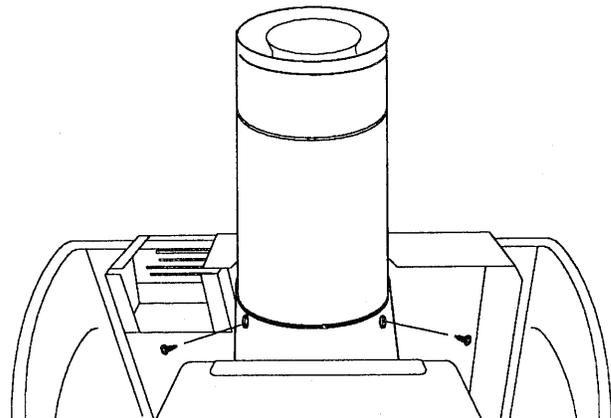

Figure 26 Install the Outer Adaptor.
Step 3. Insert the Outer Adaptor pipe into the flue collar as previously fit and secure with three #10 x 1" sheet metal screws supplied in the parts bag. Fig. 26.